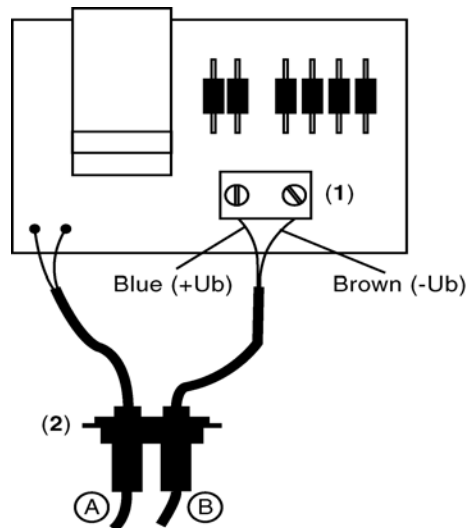

Fig. 2.77 Connecting the battery cable to desktop power adapter LT25W
4. Connect the supplied cable to the terminal (1) as shown in Fig. 2.77
5. Replace the cable feed-through (2) (Fig. 2.77) for a cable with the one supplied for two cables